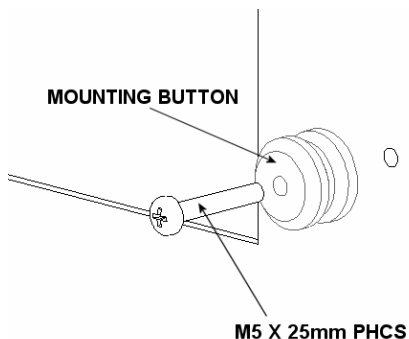
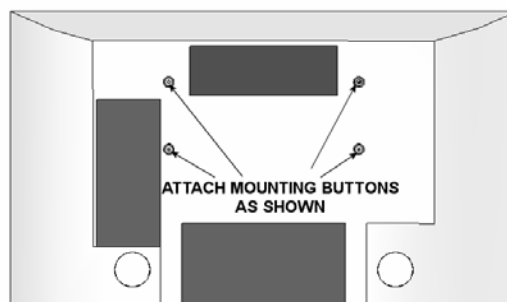

Figure 3
Figure 4
- 2) Attach mounting buttons to display using four M4 x 25 Philips head cap screws provided (see Figure 3 and Figure 4).
- 5) With the aid of another person, lift the display up to the mount, align the mounting buttons on the display with the teardrop slots in the mount, and set the display into place (see Figure 3).